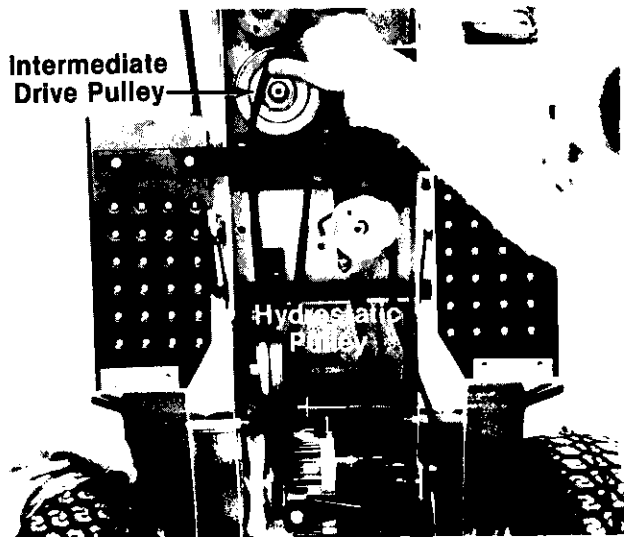

FIGURE 27.
3. Pushing the hydrostatic belt idler pulley, pull the belt away from pulley, and release the pulley. See figure 27.